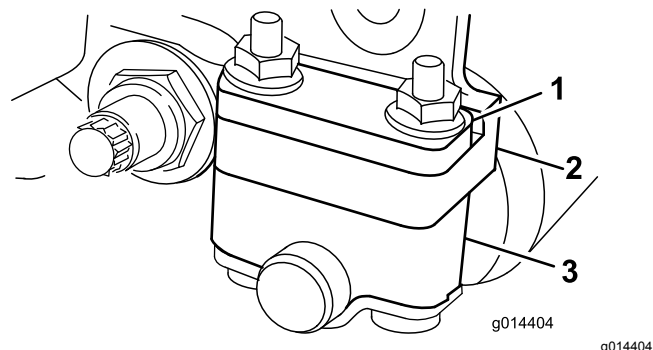
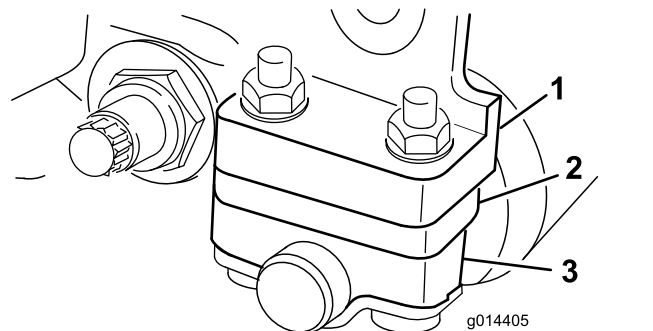

Figure 15
Figure 16
Depending on your desired height-of-cut range, you need to adjust the rear-roller brackets (Figure 15 or Figure 16) to the low or high position:
- Position the spacer above the sideplate-mounting flange (factory setting) when the height-of-cut settings range from 1.5 mm to 6 mm (1/16 inch to 1/4 inch) as shown in Figure 15.
- Position the spacer below the sideplate-mounting flange when the height-of-cut settings range from 3 mm to 25 mm (1/8 inch to 1 inch) as shown in Figure 16.
4. Place the spacers onto the bolts above or below the roller brackets, as required (Figure 15 or Figure 16).